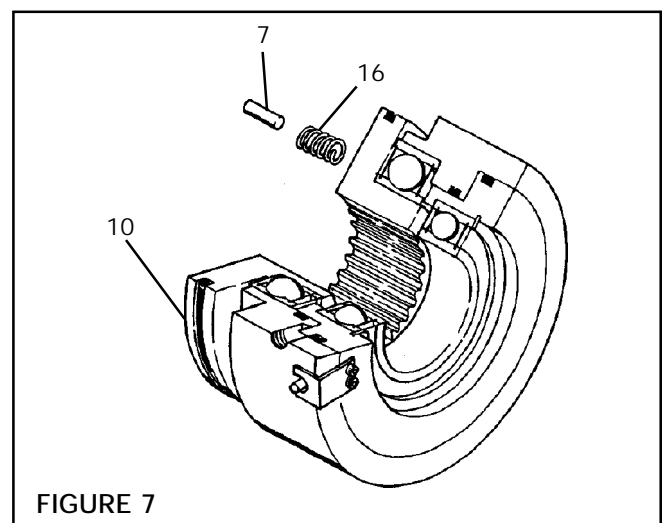

FIGURE 7
1. Remove used Springs (Item 16) and Spring Stiffener Pins (Item 17) from Ring Drive (Item 10) (See Fig. 7).
2. Install new Stiffener Pins (Item 17) and Springs (Item 16) into Ring Drive (Item 10) (See Fig. 7).